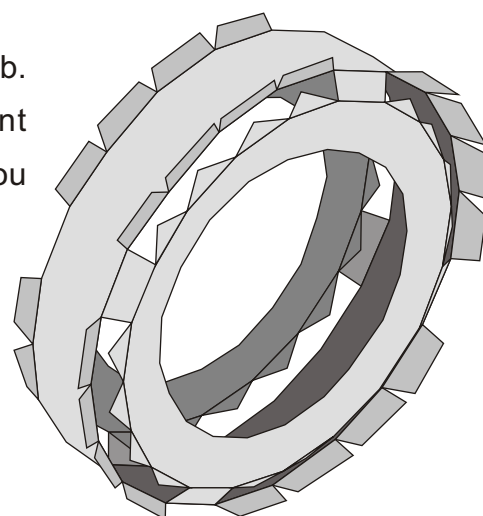

Fig. 4
- Partially assemble 1a, as shown on Fig.4., just to get it fixed in the right shape;
- Connect the wheel to element 3 using a metal pin. The metal pin is fixed with a glue drop as shown on Fig.4;